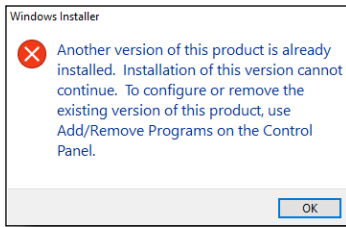

Figure 2: Installation error message
2. Run the **DirectShearSetup** file and follow the prompts on the screen. The software should detect any previous versions and uninstall them automatically. If a Windows Installer message appears (Figure 2), follow the prompts and uninstall the previous version of the software. Once installation is complete, close the installer.